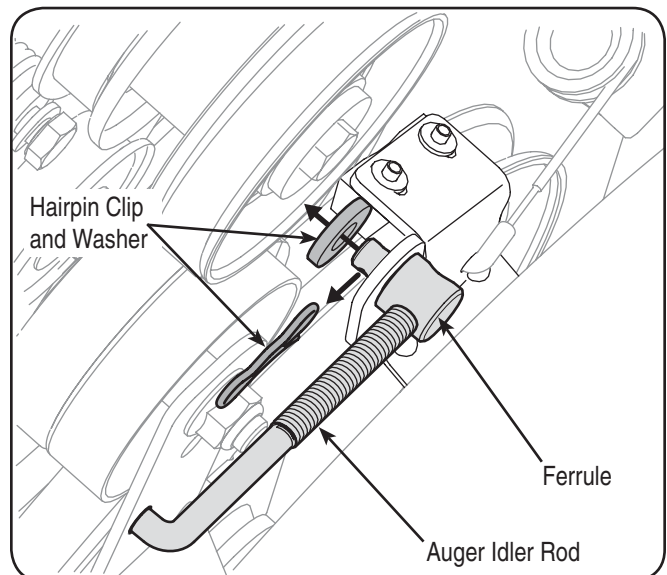

Figure 7-4
1. Remove the bow tie clip and flat washer from the ferrule in order to disconnect the auger idler rod from the brake bracket assembly. See Fig. 7-4.